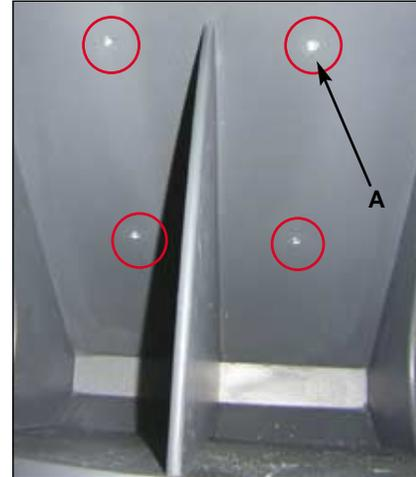

FIG. 302:
- (2) Remove shoes compartment (see Fig. 302) by acting on the attaching screws (A).
- (3) Pull audio jack/reading light cables down carefully.